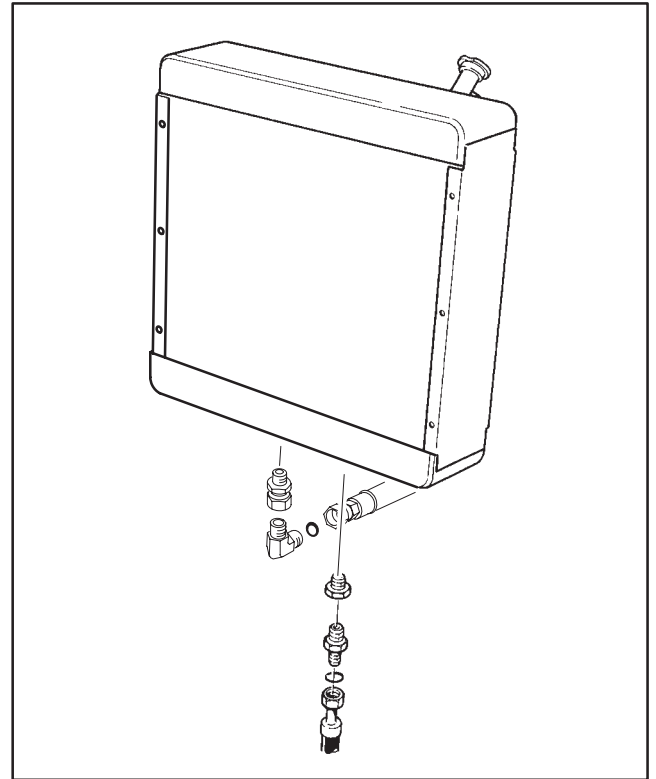

Figure 1
6. Install new hydraulic fittings and hoses to engine as shown in figure 1.